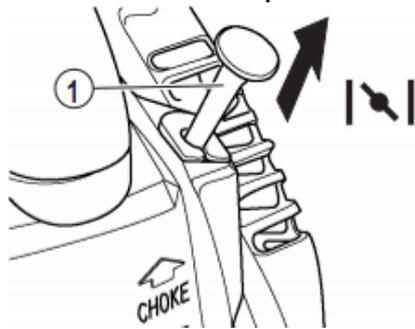

Fig.22
3) Pull the choke lever out to the closed position: . (fig.22)